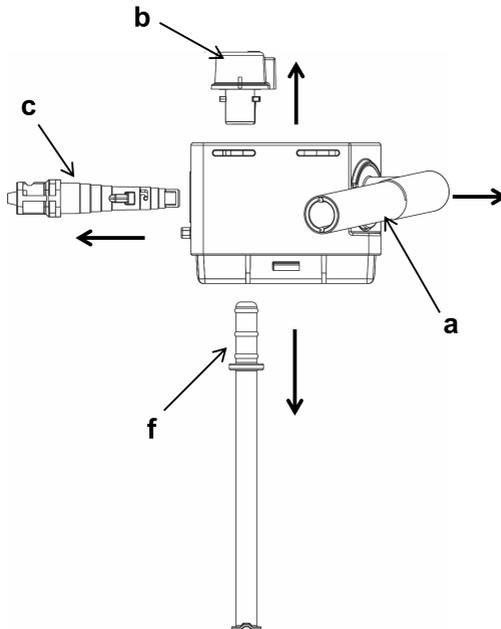

Figure 1
1. Rotate the milk outlet pipe (a) to the position shown in the diagram (Figure 1), and pull it out horizontally.